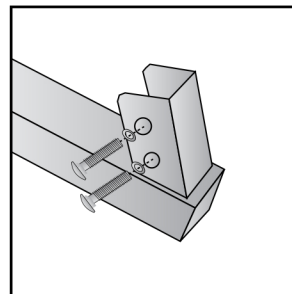

Figure 1
1. Remove the included washers and bolts from the frames, using the included Allen wrench. (Figure 1)